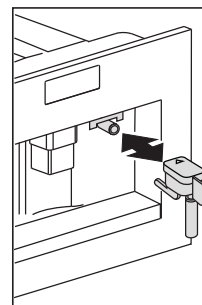

Fig. 13
- To use the appliance again, insert the hot water spout (Fig. 13) if not already in position, press the OK icon (B9). "HOT WATER PRESS OK" is displayed. Press the OK icon (B9) within a few seconds and deliver water from the spout for about 30 seconds. When delivery stops, the basic modes are displayed again.